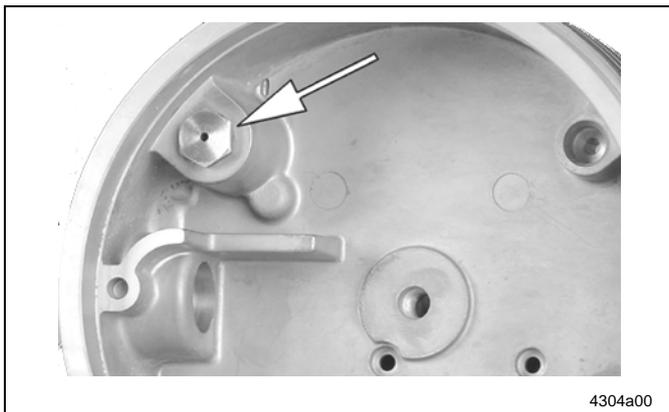

Fig. 21 Pressure relief valve (cartridge) in housing
- Pump without SSV metering device attached respectively with external metering device KNQLS (see fig. 21)